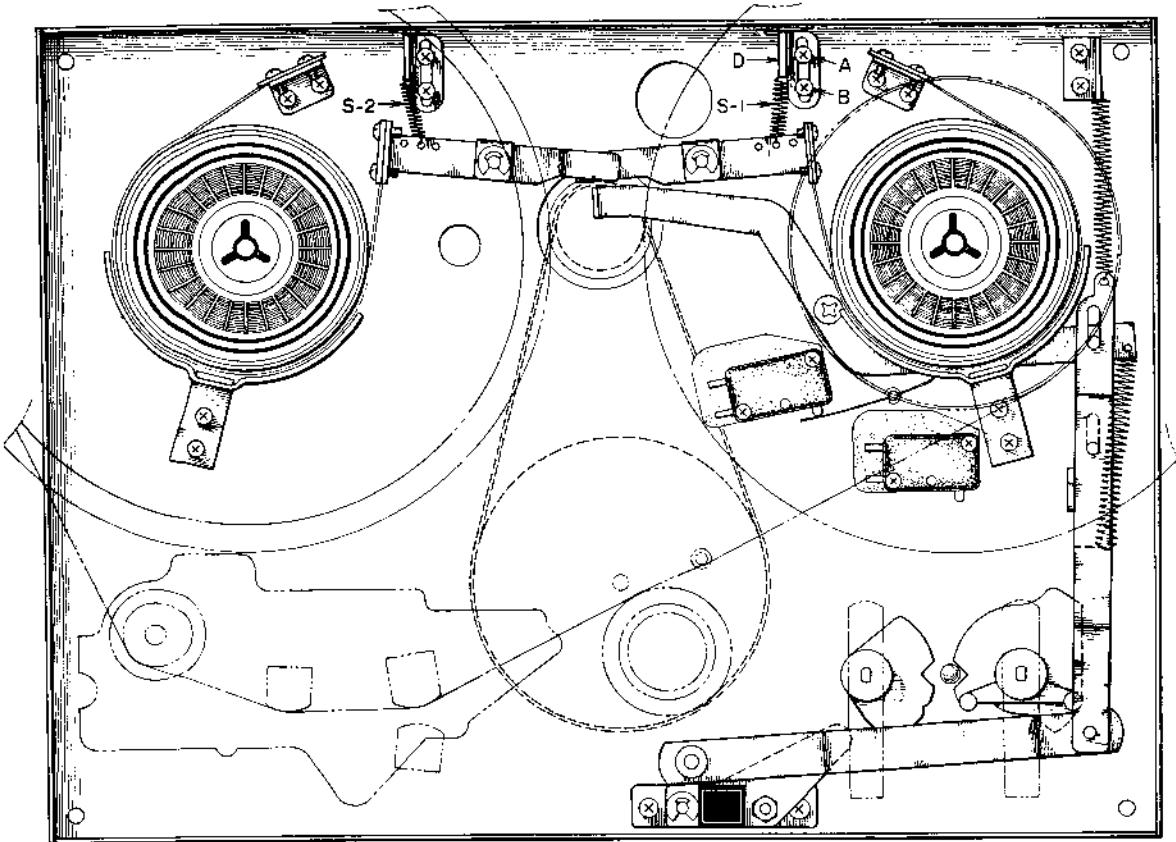

Fig. 6-3
To regulate tension, change the position of the suspended springs (S₁ and S₂ in Fig. 6-3) or loosen screws (A) (B) and regulate position of the spring suspension metal fitting (D).